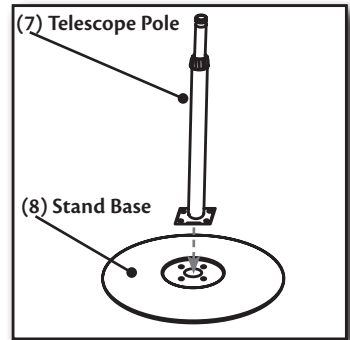

Figure 7.
1. Slide the Telescope Rod (7) into the top of the Stand Base (8) aligning the 4 screw holes. **Figure 7.**